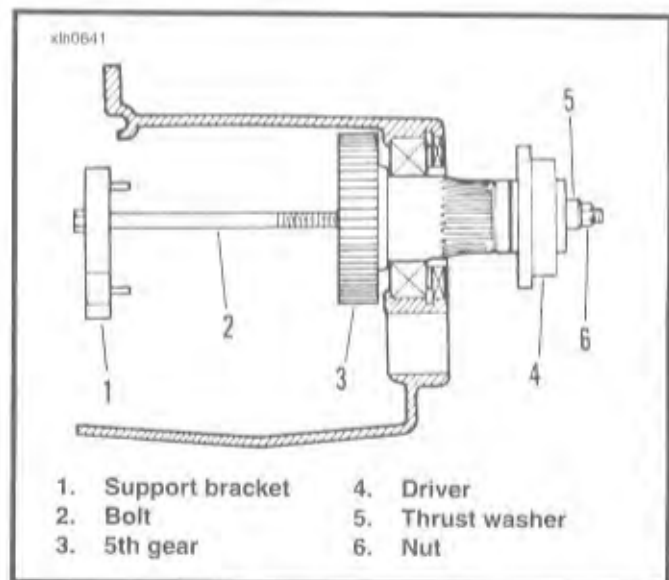

Figure 6-45. Removing Main Drive Gear
4. See Figure 6-45. Insert bolt (2) through support bracket (1) and 5th gear (3).
5. At outside of case, place driver (4) and thrust washer (5) over end of bolt (2). Install and tighten nut (6) until 5th gear (3) is free.